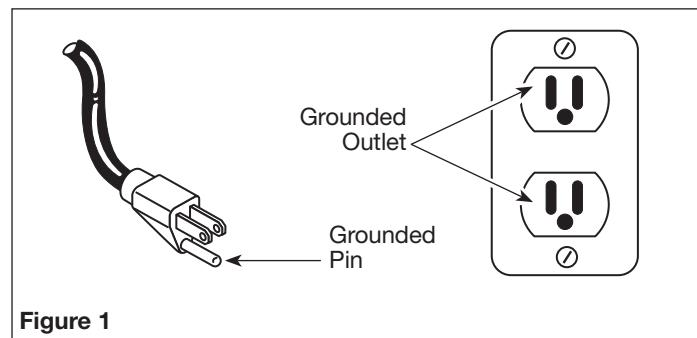

Figure 1
- This product is for use on a nominal 120 volt circuit and has a grounding plug that looks like the plug illustrated in Figure 1. Make sure the product is connected to an outlet having the same configuration as the plug. This product must be grounded. In the event of an electrical short circuit, grounding reduces risk of electrical shock by providing an escape wire for electric current. This product is equipped with a cord having a grounding wire with an appropriate grounding plug. Cord must be plugged into an outlet that is properly installed and grounded in accordance with all local codes and ordinances.